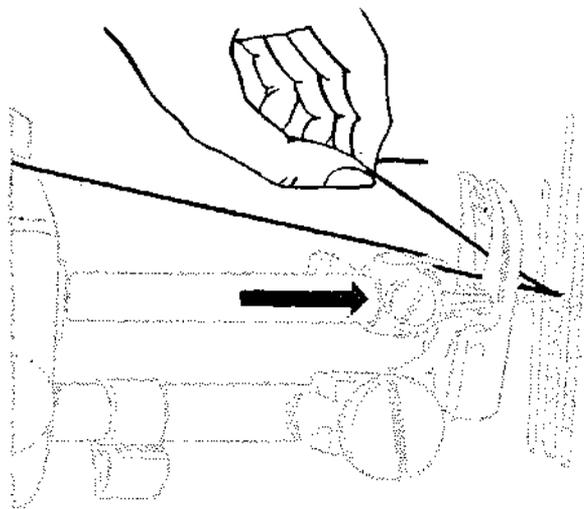

Fig. 30
2. Pull up needle thread and bobbin thread will come with it, as shown in **Figs. 30, 31** and **32**.